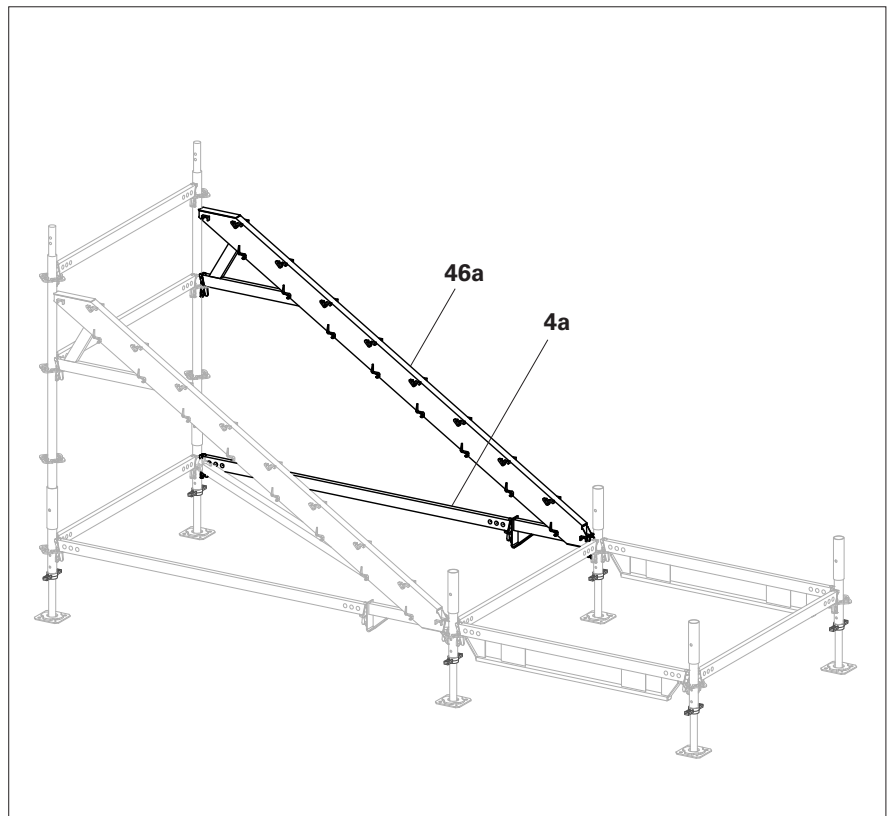

Fig. B1.03
7. Fit the Horizontal Ledger UH-2 200 (**4a**). (Fig. B1.03)